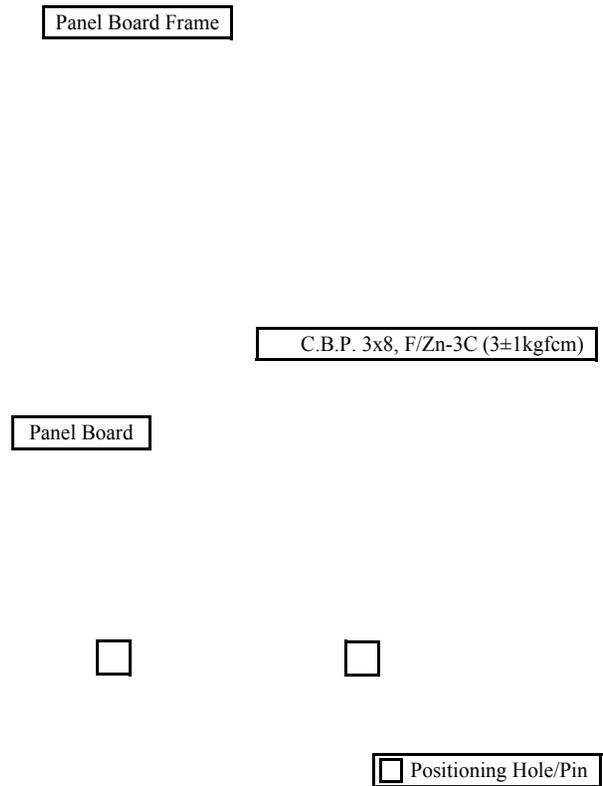

Figure 4-28. Removing the Panel Board
- When installing the Panel Board, align the positioning holes of the Panel Board with their positioning pins of the Panel Housing as shown in Figure 4-28.